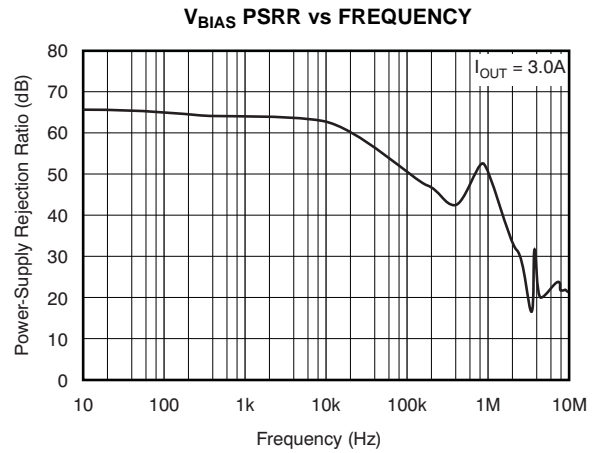
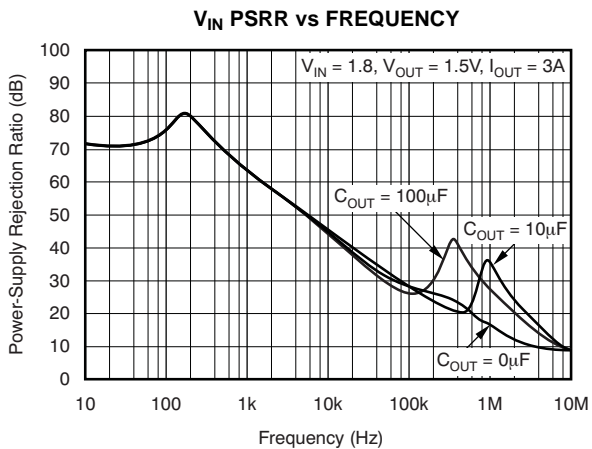

Figure 10.
Figure 13.
- (1) Adjustable devices tested at 0.8 V; external resistor tolerance is not taken into account.
(2) Dropout is defined as the voltage from the input to  $V_{OUT}$  when  $V_{OUT}$  is 2% below nominal.
(4) See Figure 10 to Figure 13 for PSRR at different conditions.